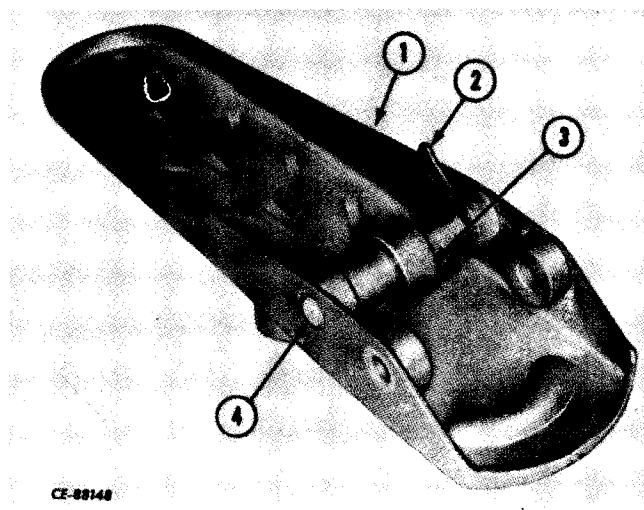

Figure 13-26
Remove cotter pin (2, Fig. 13-26) from roller pin (3). Remove roller from treadle (1). Remove roller (3).